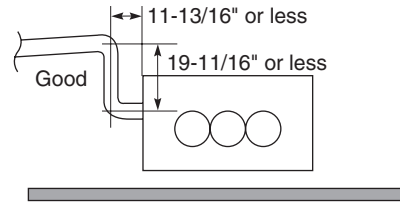

Fig. 1-111
- If it is necessary to increase the height of the drain pipe, the section directly after the connection port can be raised a maximum of 19-11/16". Do not raise it any higher than 19-11/16", as this could result in water leaks. (Fig. 1-111)